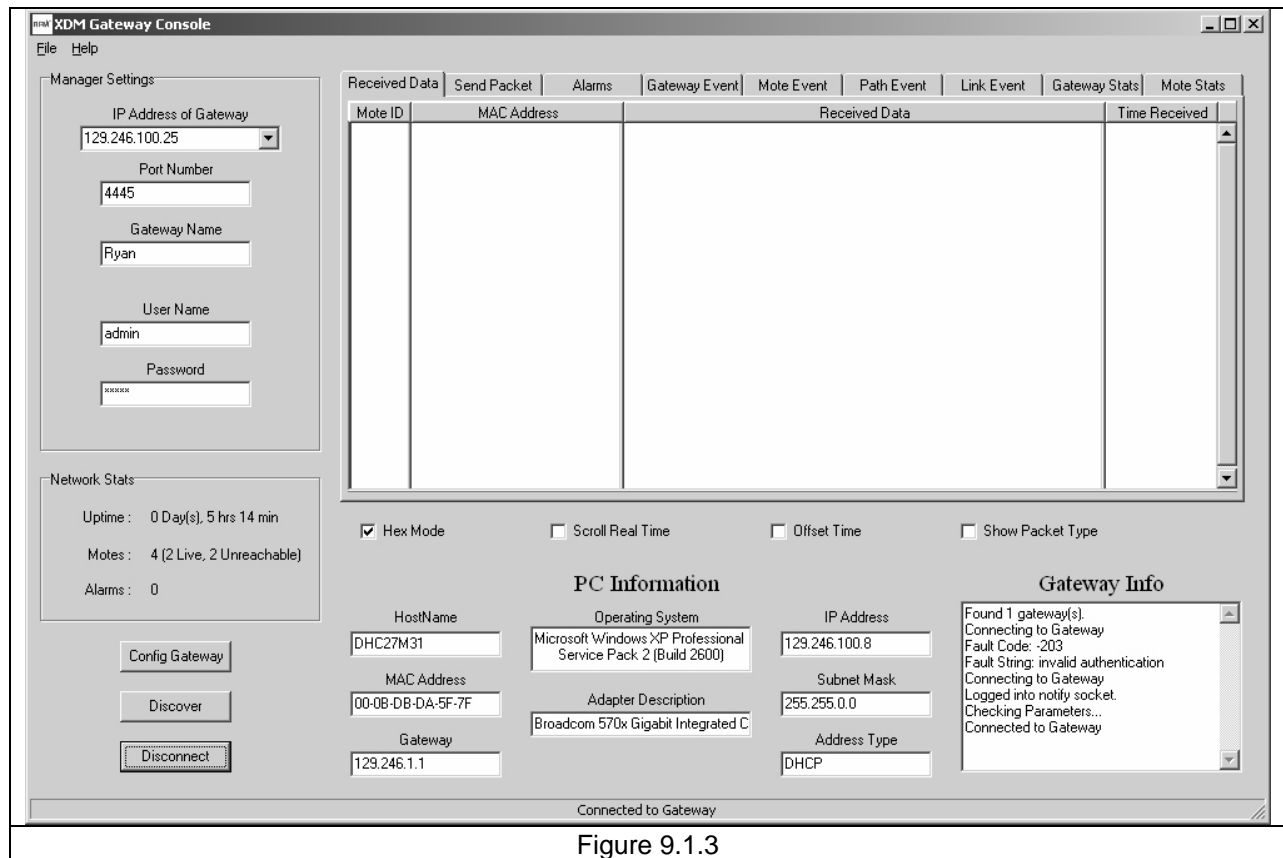

Figure 9.1.3
6. Start *xdmconsole.exe*. Type in *admin* for the Password. Figure 9.1.3 shows the *xdmconsole* window following a connection to the XG2510HE gateway.